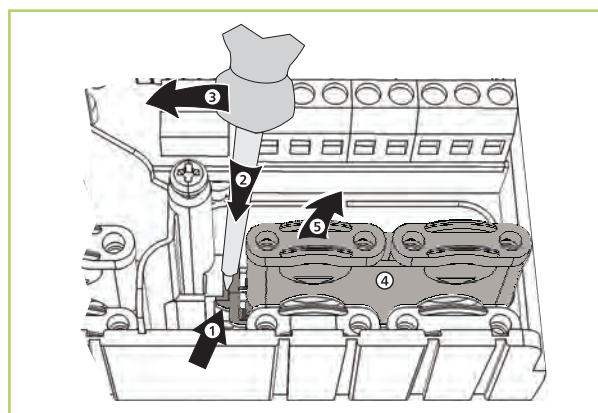

Fig. 31: Removing the right plastic bridge
1. ➤ Insert a screwdriver ② on the right plastic bridge between the housing and the clip ① (Fig. 31).
2. ➤ Carefully push the screwdriver to the left ③. In this way, raise the clip ① to the right until the plastic bridge ④ is free.
3. ➤ Pull the plastic bridge upwards using your free hand ⑤.